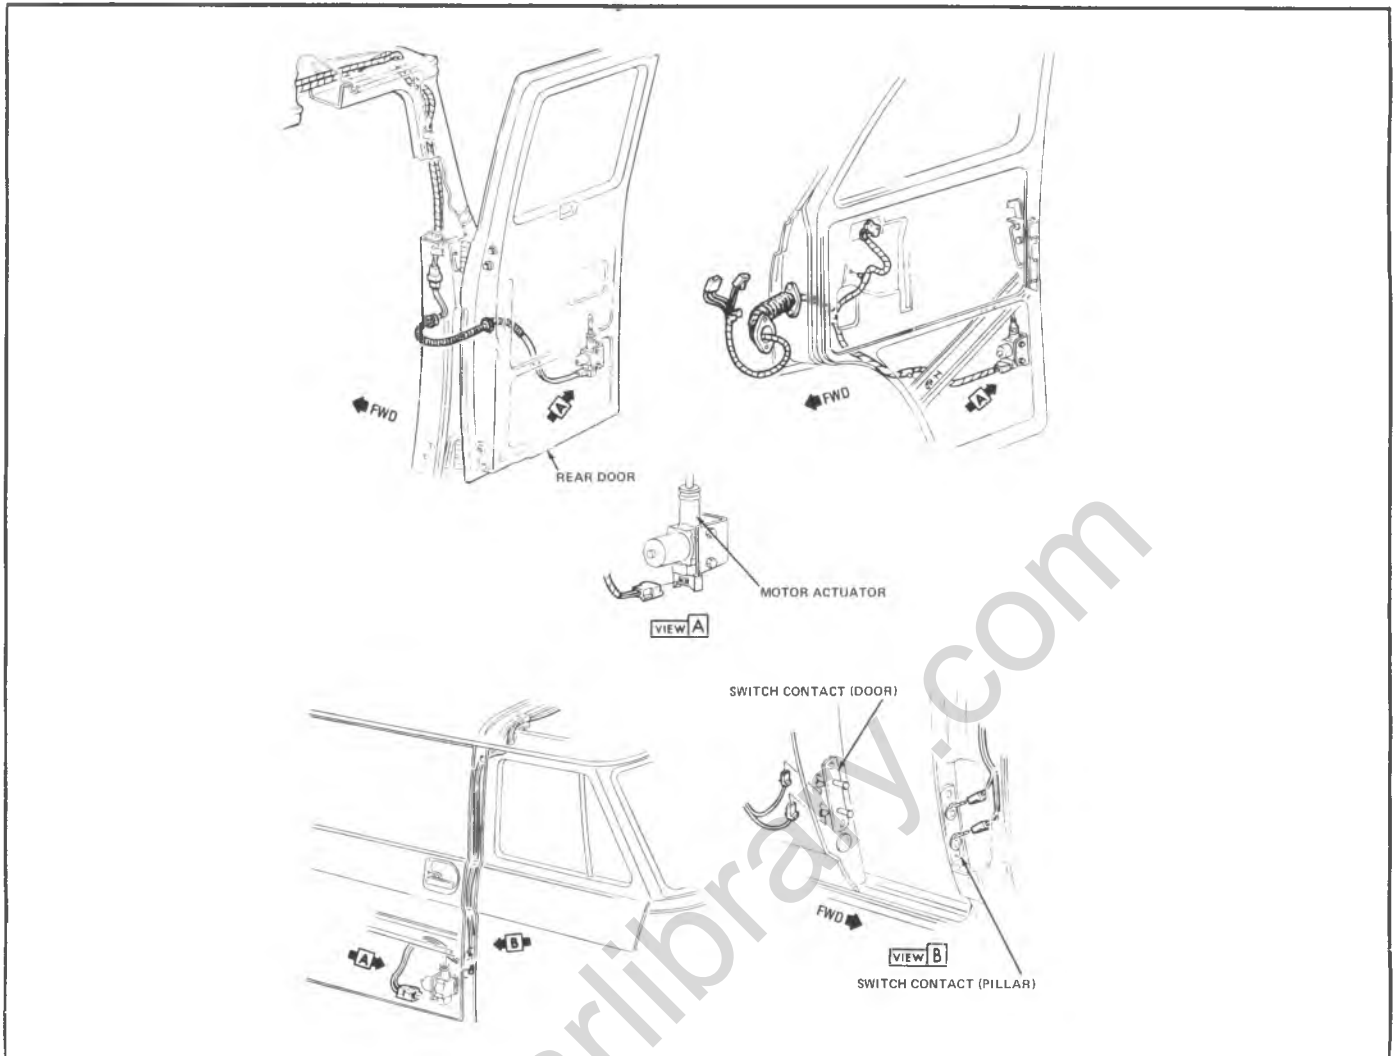

Fig. 2D-116--Power Door Lock Actuators
LOCK CYLINDER ASSEMBLY—FIG. 2D-115
The side door can be adjusted for alignment and/or clearance in the body opening and for proper latching. When properly positioned in the body opening, the door should have equal clearances around its perimeter. Adjustments for door positioning and proper latching can be made at the locations shown in figure 2D-117.
Up and down adjustments are provided by means of slotted holes located at the upper front roller, view B of figure 2D-117; at the lower front catch-and-roller, view D; and at the upper rear hinge-and-roller assembly, view A. To reposition the door up or down:
2. Remove upper rear hinge cover, shown in figure 2D-118.